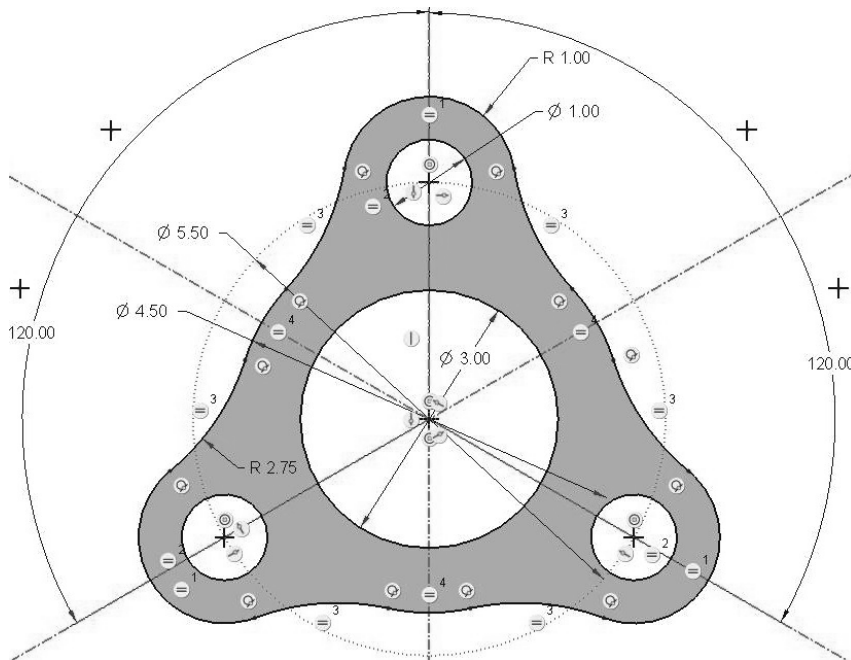

Figure 3-79 Problem 10—Cork Gasket
3.10 Draw the "cork_gasket" (Figure 3-79). **Design Intent**—The three holes need to be on a 5.50-inch bolt circle spaced 120° apart. The boundary arcs 1.00, 2.25 (4.50/2), and 2.75 are tangent to each other. (Note (=3) on numerous arcs equal 2.75 inches or half of the 5.50 bolt circle.) (>File>Options>Sketcher, change to 2 decimal places before sketching. Pick OK.)